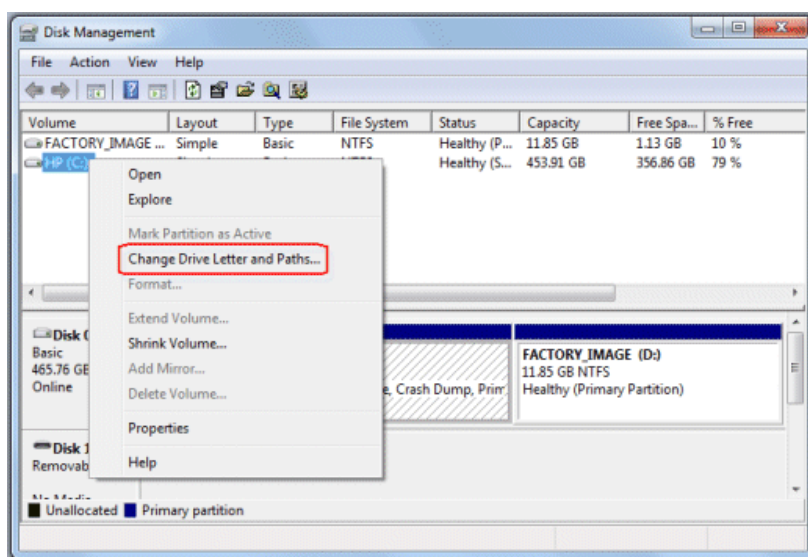

Figure 4.26
2. Right-click the partition or drive to rename and then click Change Drive Letter and Paths... as shown in Figure 4.26